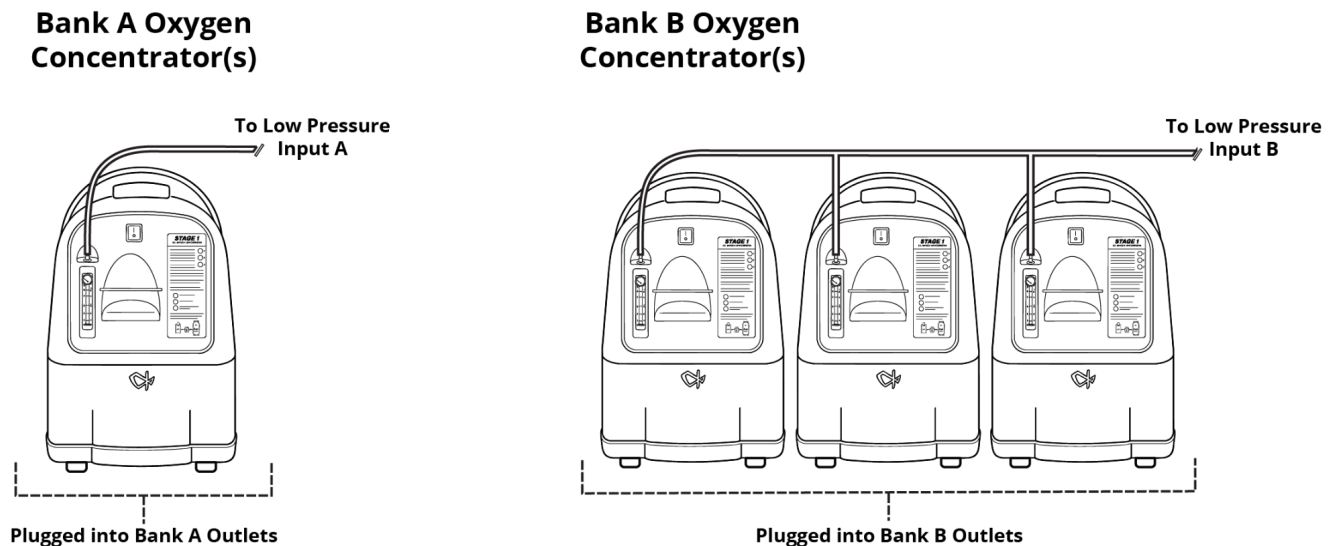

Figure 3.
2. Group and install Oxygen Concentrators – Separate Bank A concentrators and Bank B concentrators. (Figure 3)
- a. Oxygen Concentrators powered by Bank A feed oxygen supply to Input A. Confirm with Figure 3.
- b. Oxygen Concentrators powered by Bank B feed oxygen supply to Input B. Confirm with Figure 3.